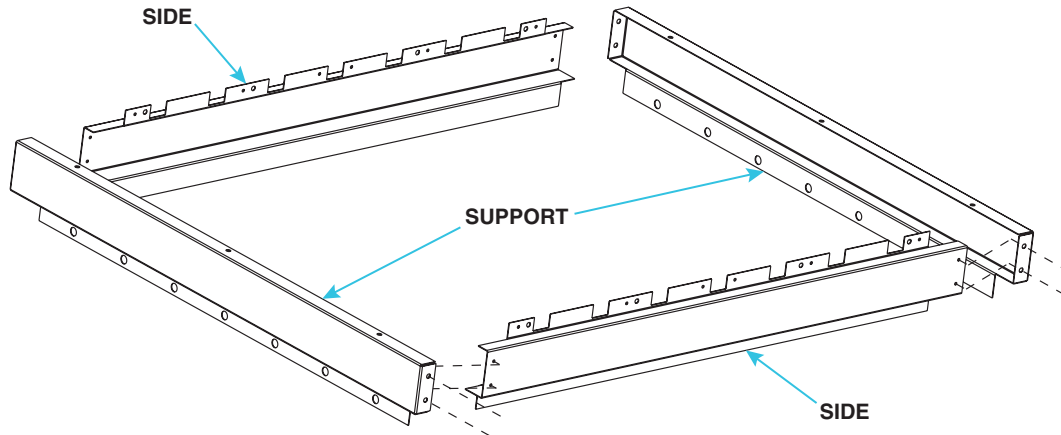

Figure 4. Louver Frame
- a. Assemble louver frame (see Figure 4). Secure both sides to both supports using 3/8-inch screws.